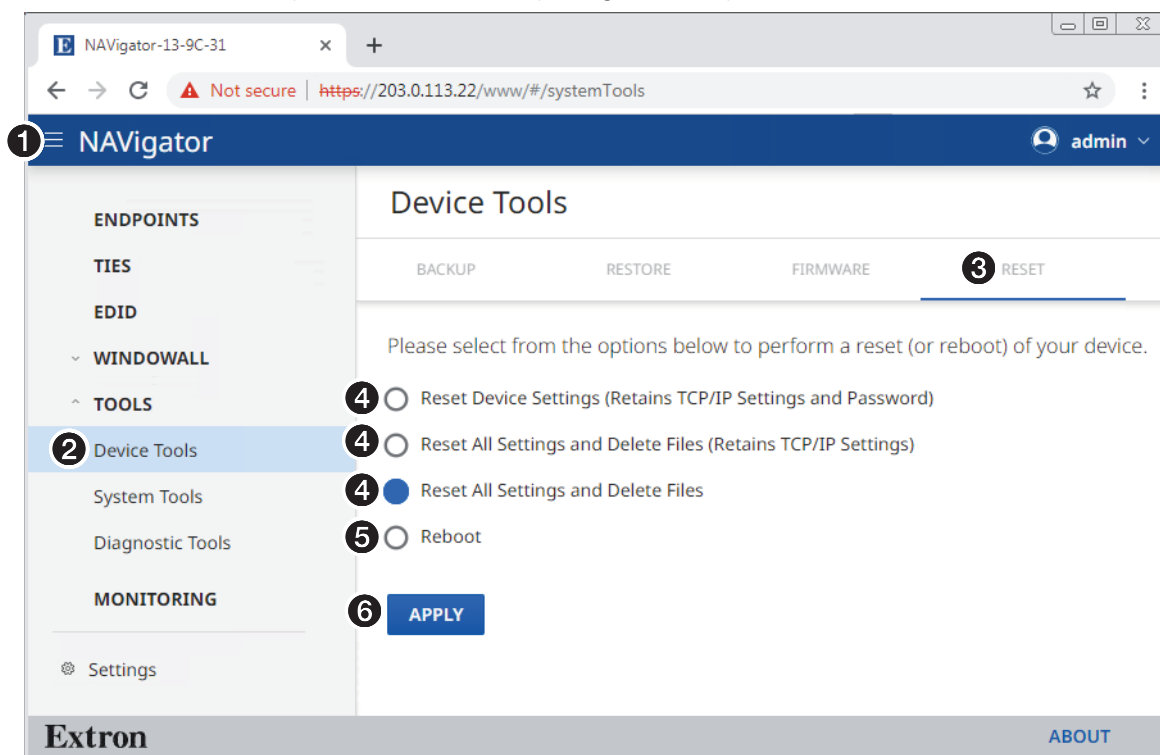

Figure 79. Opening the Restore Configuration Page
1. If necessary, click the **Menu** icon (see figure 79, ❶).